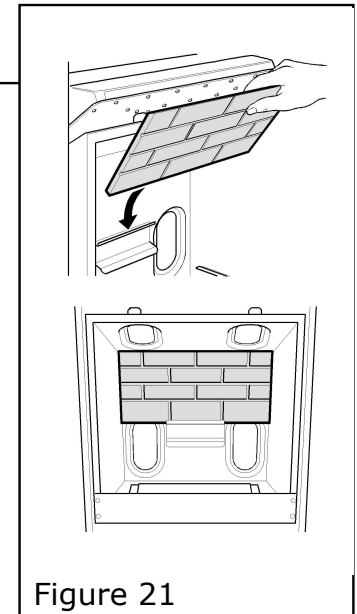

Figure 21
1. Locate the ceramic rear wall in the channel at back of the firebox and flat against the back of the firebox. See figure 21.